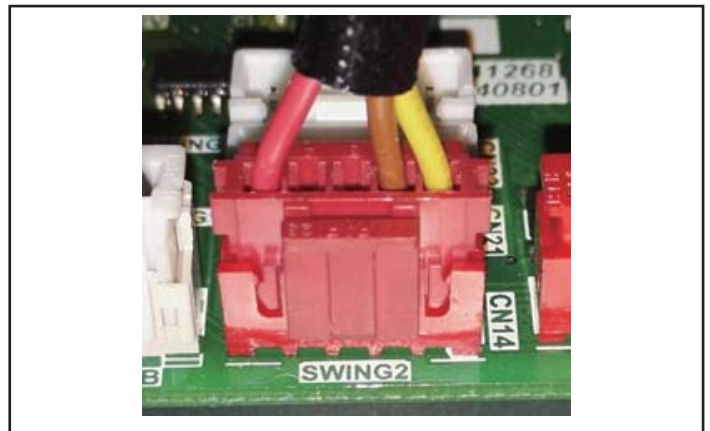

Figure 10. VVCA*H4-1P Connect Heat Kit to CN 14**
- Connect the red plug to CN 14 on the VVCA main board. See figures 10 and 11.